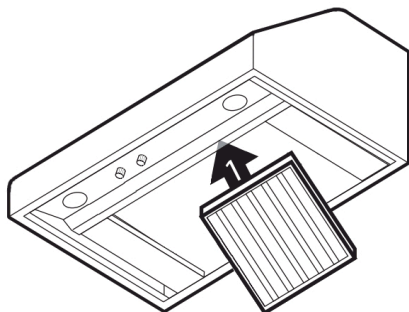

FIGURE 9: INSTALL THE STAINLESS STEEL BAFFLES – PART A
- a. Angle the baffle filter and insert front edge into front channel of hood (FIGURE 9).